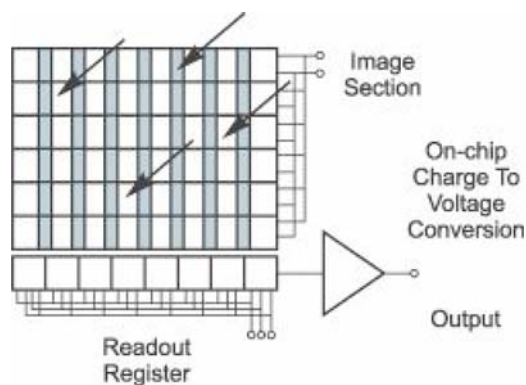

FIG. 10 Typical Sketch of an Interline CCD Sensor
**interline transfer CCD**, *n*—a type of CCD designed with columns of pixels alternated with masked storage registers so as to increase the rate of acquisition. The storage registers occupy a portion of the pixel area reducing the fill factor of the diodes under the pixels, and hence, such a CCD architecture has typically lower quantum efficiencies than other types of CCDs (see Fig. 10).